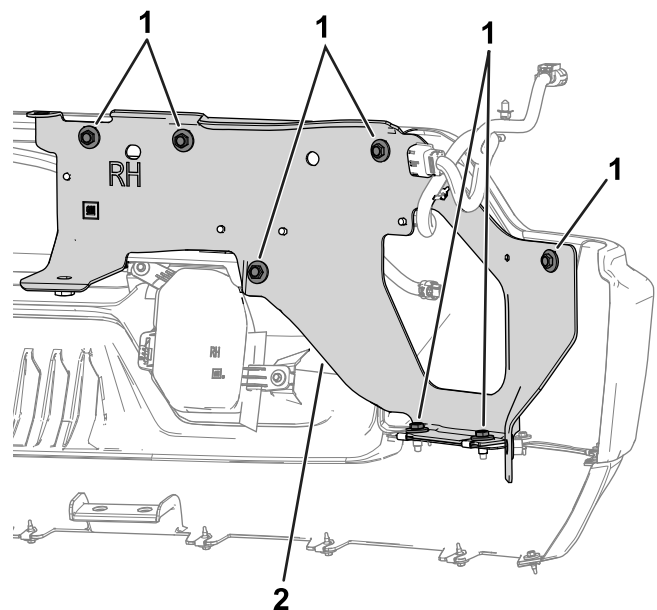

Figure 1
5. Remove the bolts that fasten the rear brackets to the bumper shell (Figure 1).